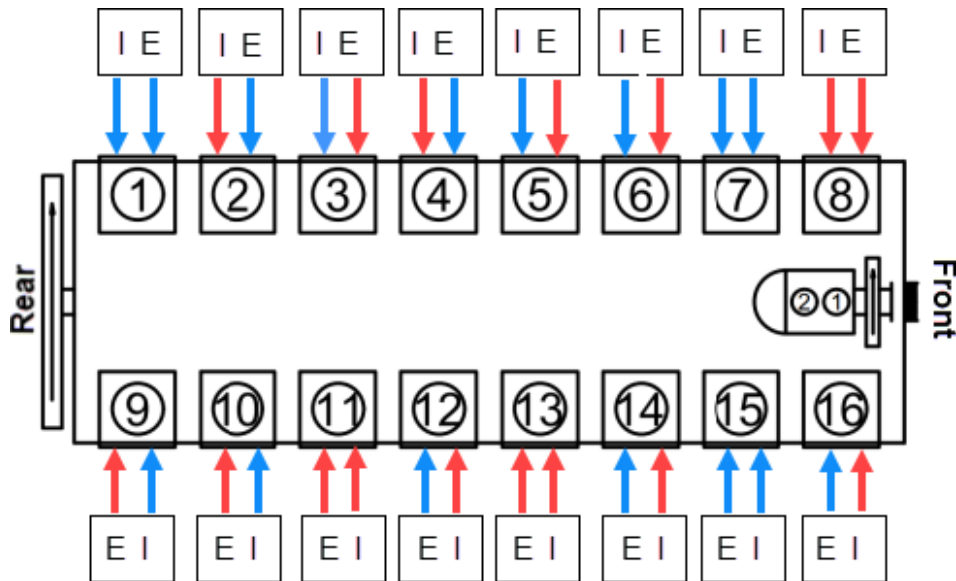

Figure 21
- f) Check the rockers when cylinder 1 is at TDC (Left side of the engine closest to the rear (Flywheel) end of the engine). If cylinder 1 is at TDC the valves shown below in blue can be adjusted. If cylinder 11 is at TDC the valves shown below in red can be adjusted. (Refer to Figure 21)